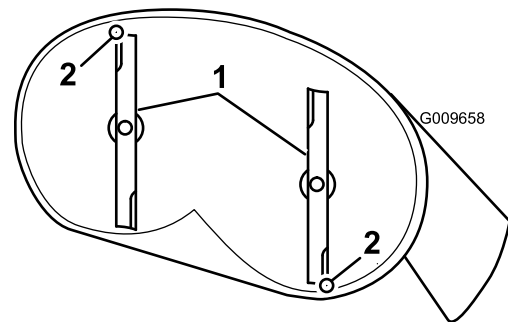

Figure 59
4. Carefully rotate the blades so they are facing front to rear (Figure 59).
5. Measure from the tip of the front blade to the flat surface, and the tip of the rear blade to the flat surface (Figure 59).
- D. After adjustment, check the front-to-rear slope again, continue adjusting the nut until the front blade tip is 1.6 to 7.9 mm (1/16 to 5/16 inch) lower than the rear blade tip (Figure 59).